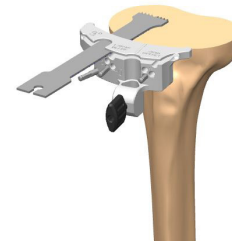

Figure 101
2. Remove the Tibia Stylus and assembly leaving the cutting block in place. Resect the proximal tibia (Figure 101).